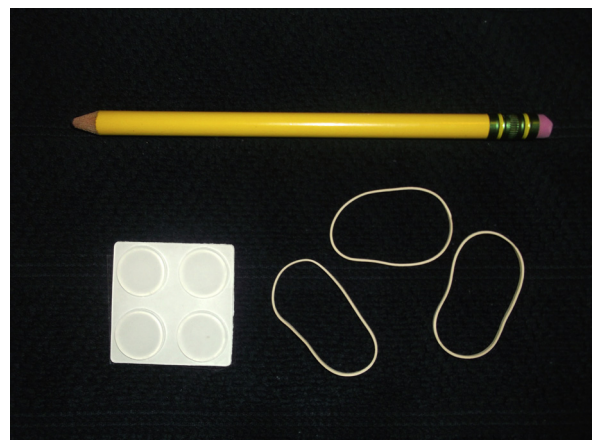
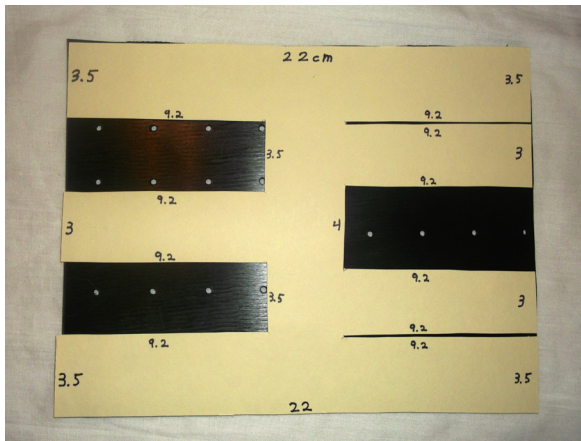

Fig. 1. Materials required.
Fig. 2. Pattern on thermoplastic.
3. 3/4" adhesive vinyl pads (×4) (Fig. 1)
4. 1/8" rigid thermoplastic material 17 (H) × 22 (W) cm
5. Measured pattern (Fig. 2).